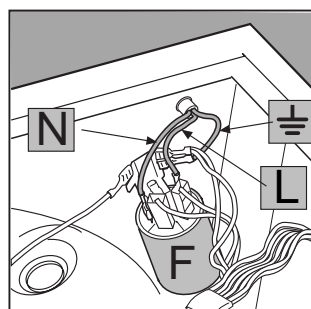

Fig. 14
3. Disconnect the wires from the radio interference suppressor **F** [fig. 14] noting as to their position (**Blue=N** wire; **Brown=L** wire) leaving the earth wire until last \perp .